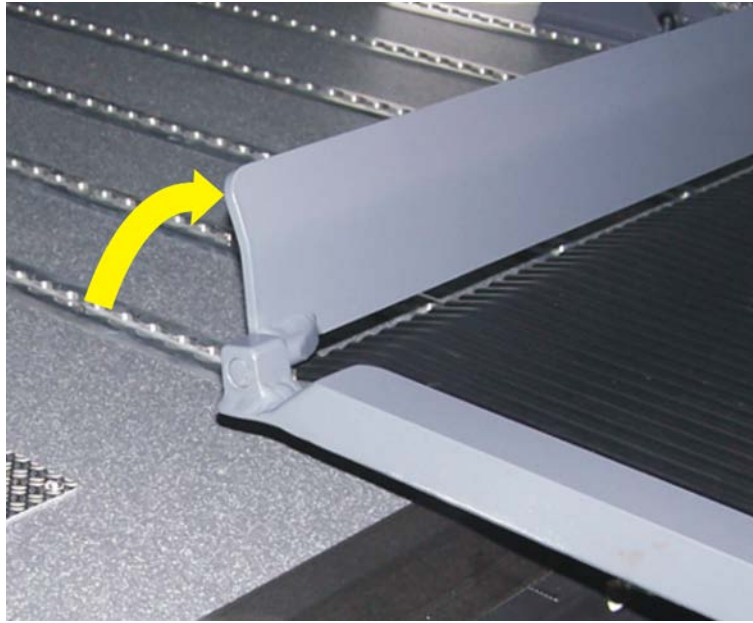

Figure 14: Raising the Narrow Roll-Off Guard
- ⇒ Raise the narrow roll-off guard so far that it latches in position (see Figure 14, page 28).